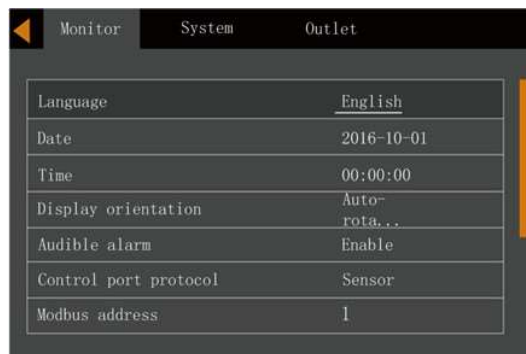

Figure 5-17 Changing Language
4. Press the or key to select your required language, then press the key to confirm. At this point the LCD information will be displayed in your selected language. See Figure 5-17.